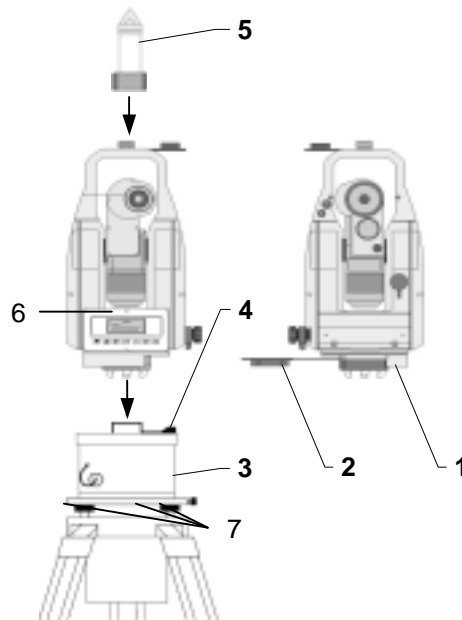

Figure 2-3. Mounting the Digital Electronic Theodolite
- Using the "LEFT THUMB RULE FOR LEVELING", CENTER BUBBLE in circular leveling vial (6) on the theodolite using leveling screws (7) on the tripod (Figure 2-3).